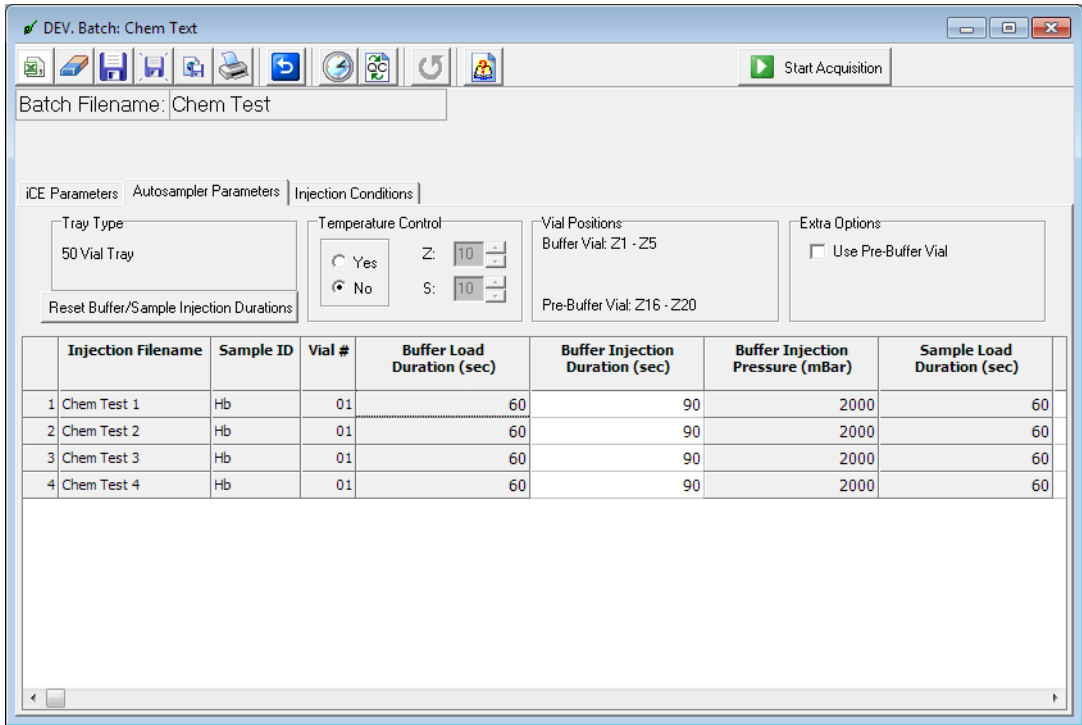

Figure 5-27: Autosampler Parameters tab.
15. Select the Autosampler Parameters tab (Figure 5-27). Use the scroll bar to view all parameters in the tab.